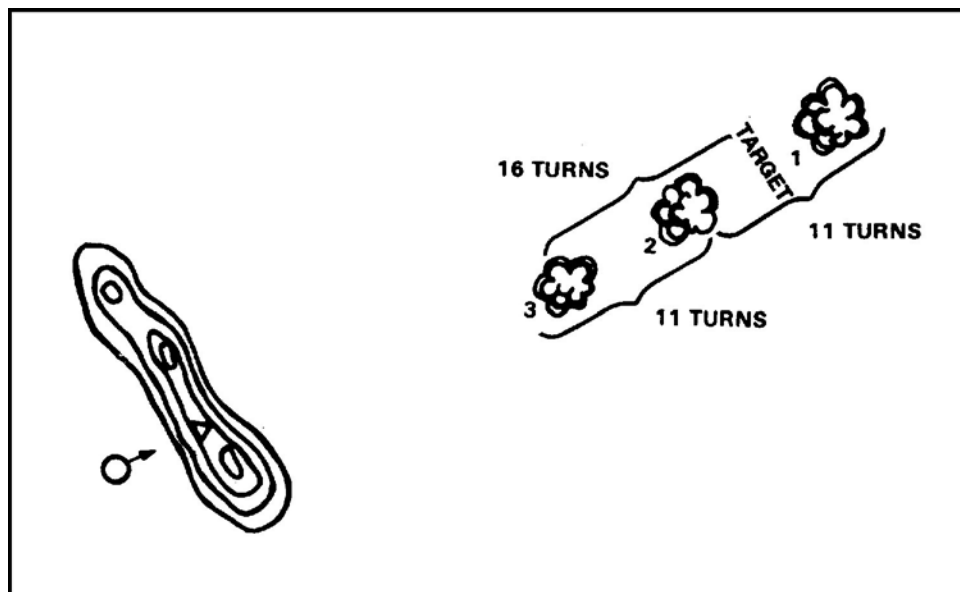

Figure 5. Firing for Effect
- c. In Figure 5, the target appears between round 1 and round 2. After firing round 3, the gunner leaves the mortar as it was when fired (up 22 turns). The FO/squad leader knows that if he goes down 11 turns, he could hit where round 2 hit; the target is halfway between No. 2 and No. 1 rounds. If he goes down five more turns, he will be right on target and be ready to fire for effect.